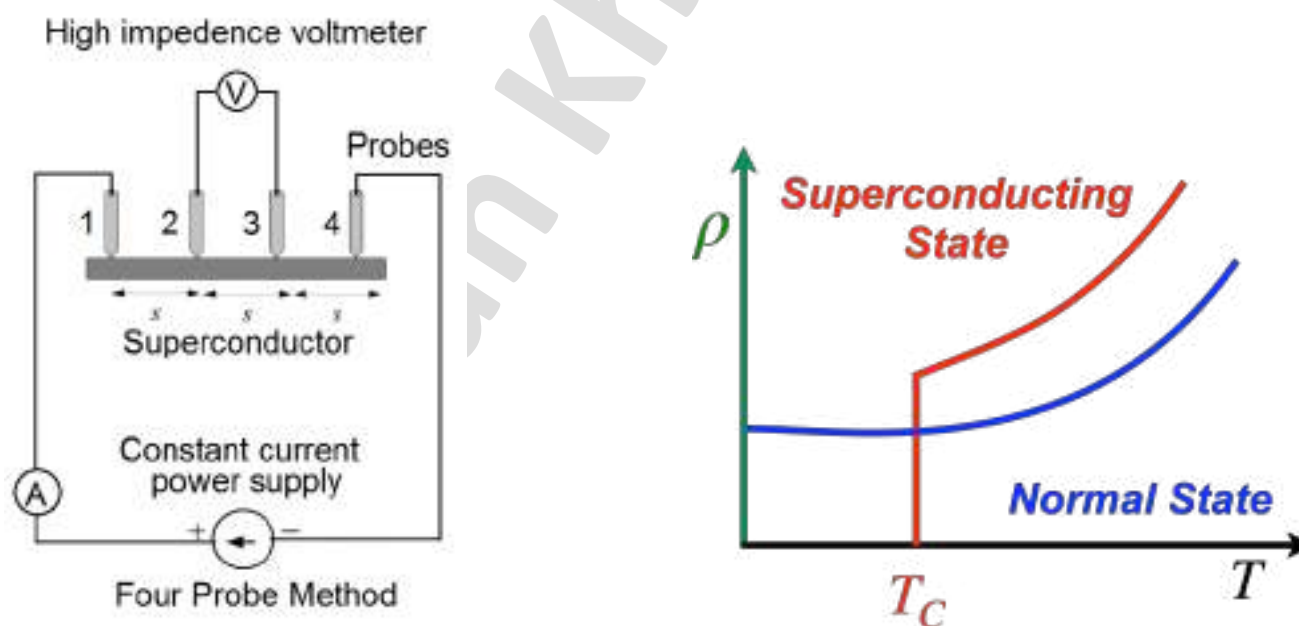

Fig. 5: a) Zero Electrical Resistance measurement by Four-Probe Method, b) Resistivity (ρ) vs Temperature (T)
- The electrical resistivity of the materials can be measured by using the Four probe resistivity measurements. The setup for electrical resistivity measurements is shown in Fig 5. At room temperature (300 K) material exhibits some finite resistance; when current is passed through the material due to this resistance voltage is developed in the material. Now if the temperature of the material is lowered from room temperature, the resistance of the material decreases and hence the voltage. Further if we continue lowering the temperature, at certain temperature the resistance of the material drops to zero which can be confirmed from zero voltage reading in the voltmeter.